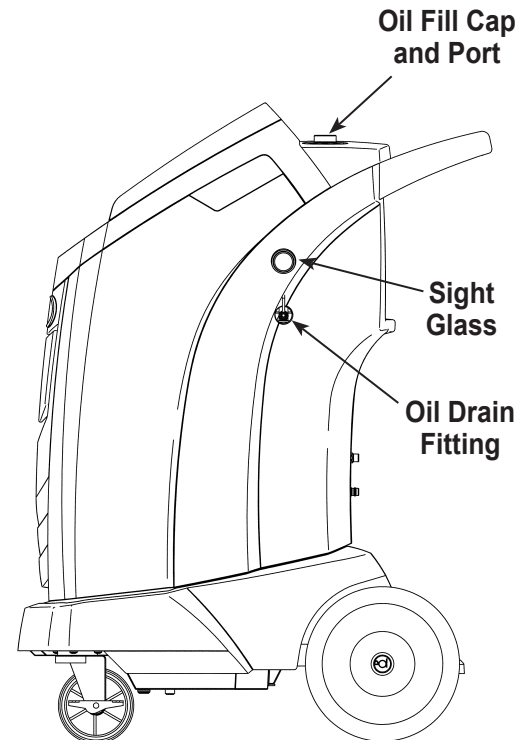

Figure 10
3. After the compressor stops, **slowly** open the oil fill cap to verify there is no pressure in the machine. Then carefully remove the cap. See Figure 10.